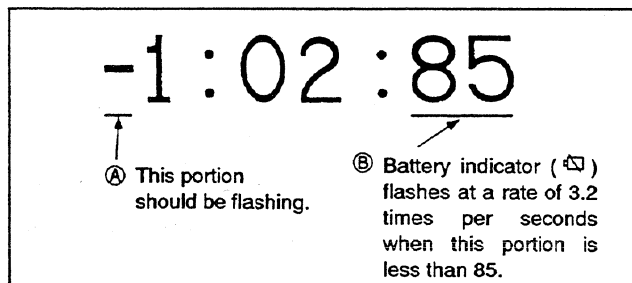

Fig. 9-4.
- 1) Press the data screen button (S509) on the VK-3 board to display the counter on the monitor screen. (See Fig. 9-4.)